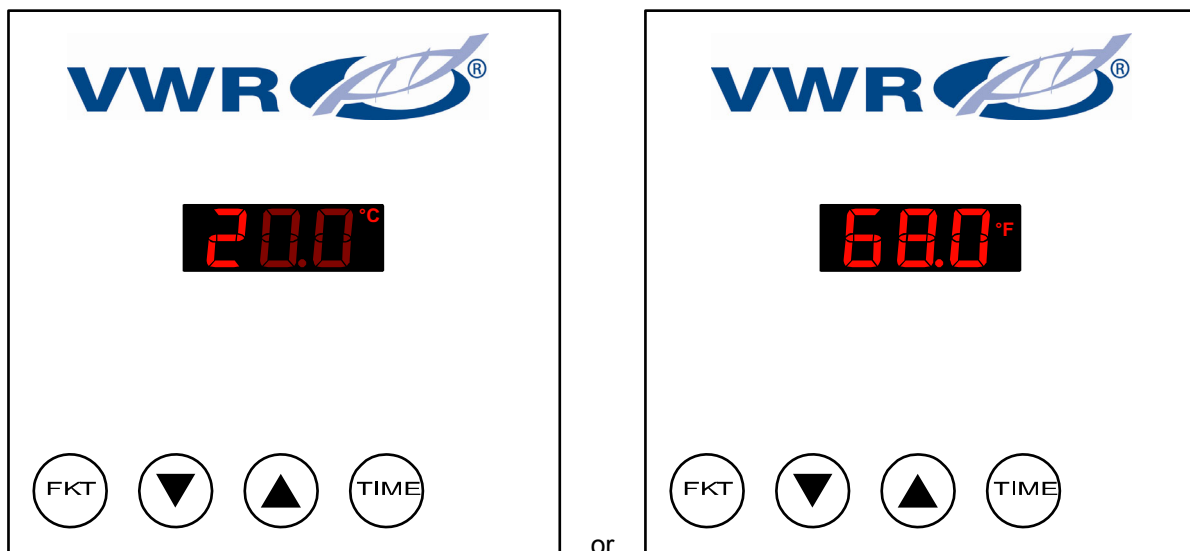

Figure 7: Basic mode: display is showing the current interior temperature (in °C or °F) (example)
After a few seconds, the display shows the current interior temperature of the DRY-Line drying oven (see example in Figure 7).
After 60 seconds without pressing any button the controller will automatically return to its basic mode displaying the current interior temperature (see Figure 7) with accepting every changed value.
- To go back to the basic controller display showing the current interior temperature (see Figure 7), press the <FKT> button repeatedly, or press the <FKT>+<▼> buttons simultaneously, or wait for 60 seconds without pressing any button.